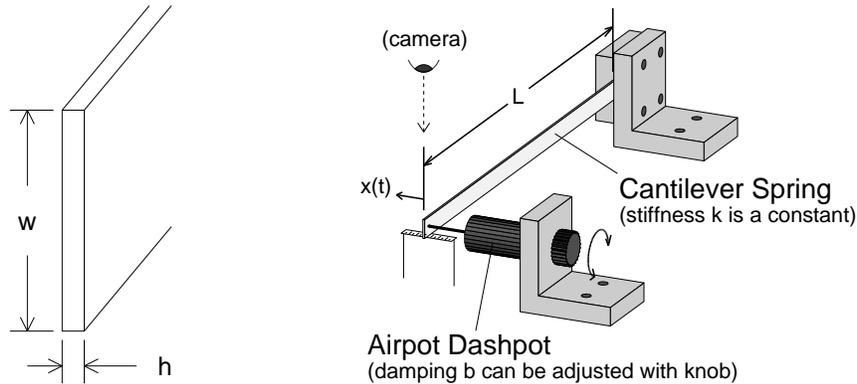
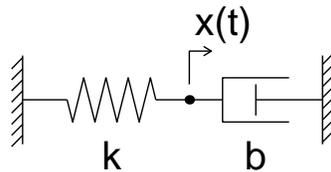
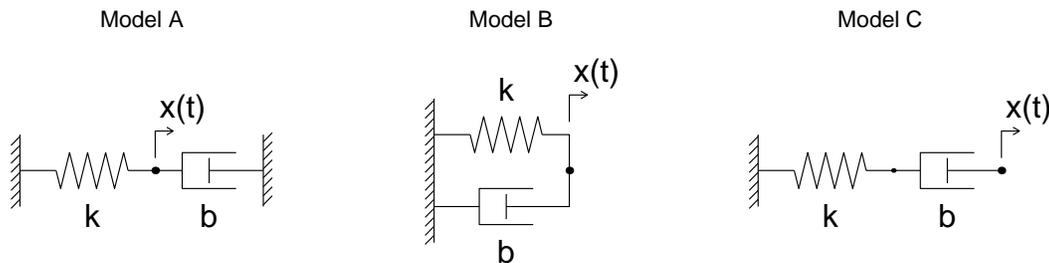

Figure 1: Picture of spring and dashpot system.
Figure 2: Idealized spring-damper system.
Figure 3: Idealized spring-damper systems.
In this lab, we measure the time constant of a first-order spring-damper system and then use this value to estimate the magnitude of the damping. Figure 1 shows the spring-damper system, and Figure 2 gives an idealized model which we will use here to predict its behavior.
The stiffness  $k$  in the  $x$  direction (see Fig. 1) as seen at a position  $L$  along a uniform cantilever beam can be derived from the beam bending equations as
1. A model for the first-order spring-damper system is shown in Figure 2 . The same image is labelled as “Model A” in Figure 3 below. Which of the other two models below (B or C) also model the same dynamic system? (Explain *briefly*.)
2. Determine the numerical value of the spring constant  $k$  of the steel beam shown in Figure 1, at the position  $L$  where the Airpot is attached.
4. Suppose that we have measured the following output data from a spring-dashpot system, and that the dimensions of the spring steel cantilever beam are as sketched in Figure 1.